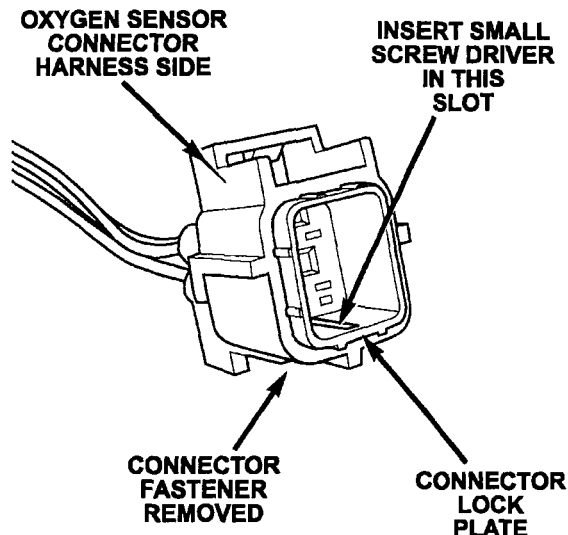

Figure 2
2. Disconnect the left rear oxygen sensor (Figure 2).
6. Using a small screw driver, remove the lock plate from the oxygen sensor connector. (Figure 2)